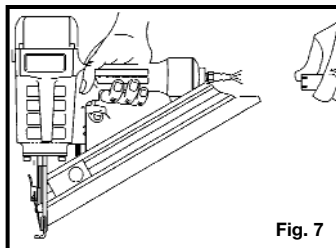

Fig. 7
**11. Connect tool to air supply hose with a coupling that automatically removes all pressure from the tool when the coupling is disconnected.** Fig. 7.
**12. Disconnect tool from air supply hose before doing tool maintenance, clearing a jammed fastener, leaving work area, moving tool to another location, or handing the tool to another person.** Fig. 7.